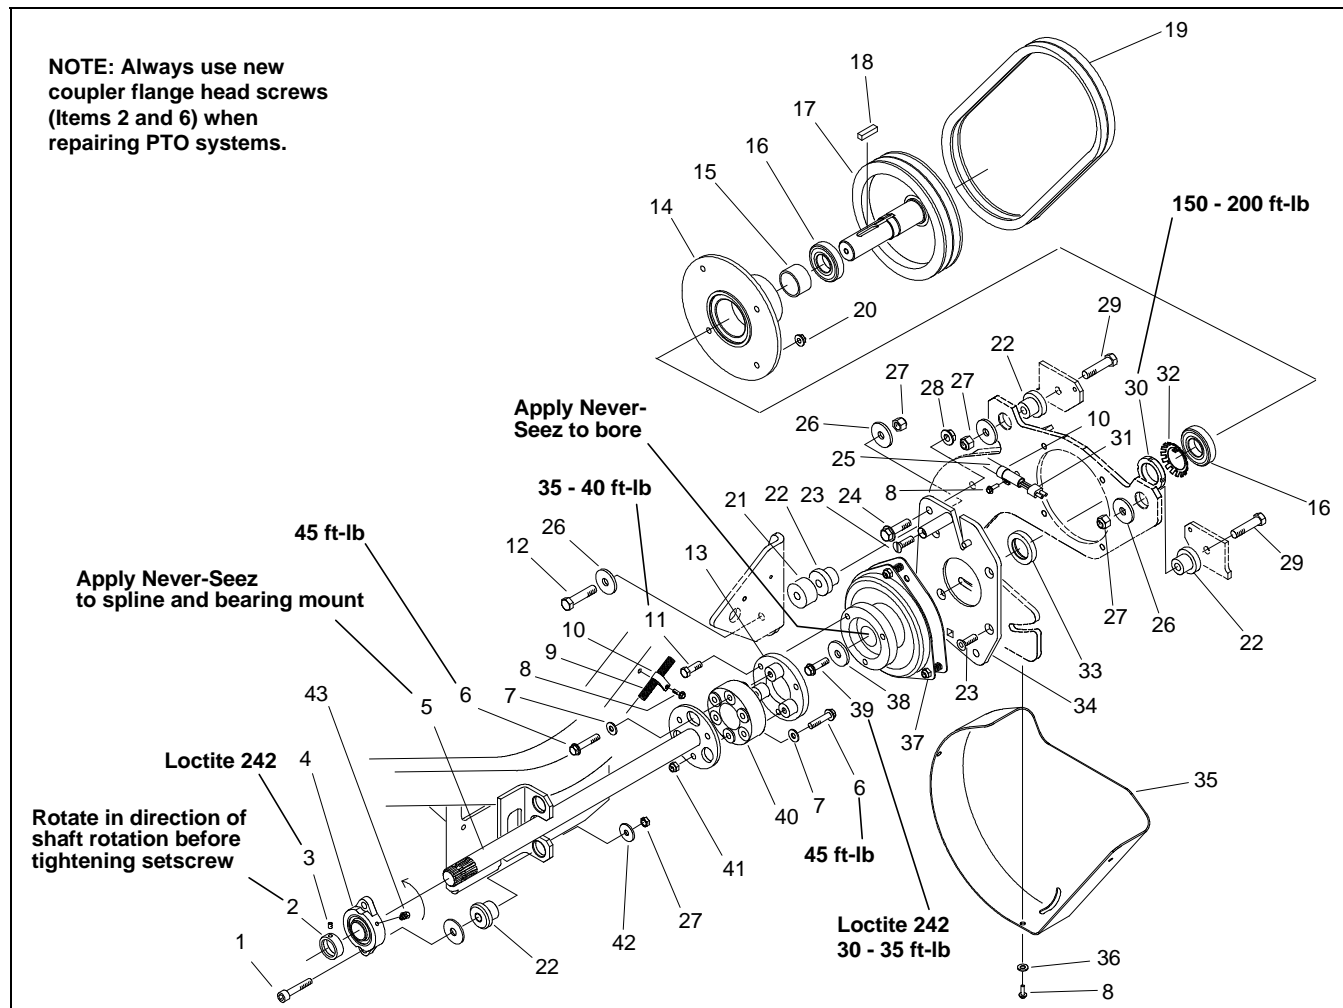

Figure 8
2. Loosen PTO shaft bearing collar (Fig. 8, Item 2) to allow shaft movement.
3. Remove three (3) bolts (Item 11) securing clutch adapter (Item 13) to clutch.
4. Remove three (3) flange head screws (Item 6) and flat washers (Item 7) securing rubber flange (Item 40) to clutch adapter (Item 13).